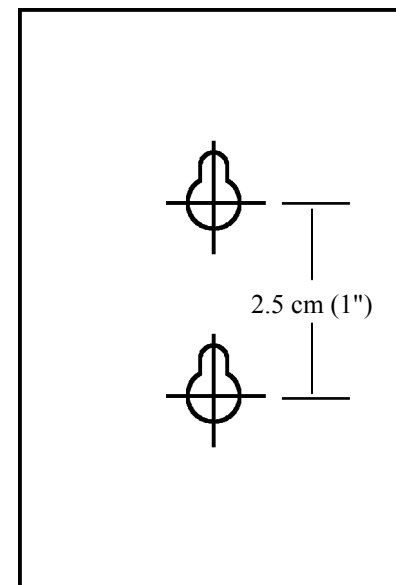

Figure 9 – Wall Mounting Template
1. Copy the template (Figure 9) and tape template onto the wall in the desired location.